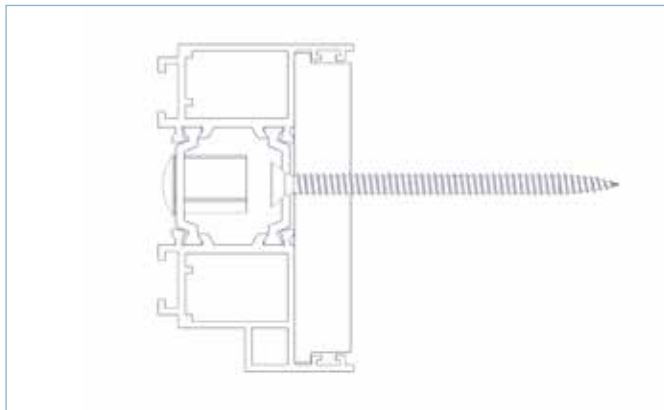

FIG 5B
▶ **5.2.** Using a 13mm drill bit, make a hole in the outer layer of polyamide, level with the centre of each jamb packer. This will allow installation of the fixing plug as shown in FIG 5B.